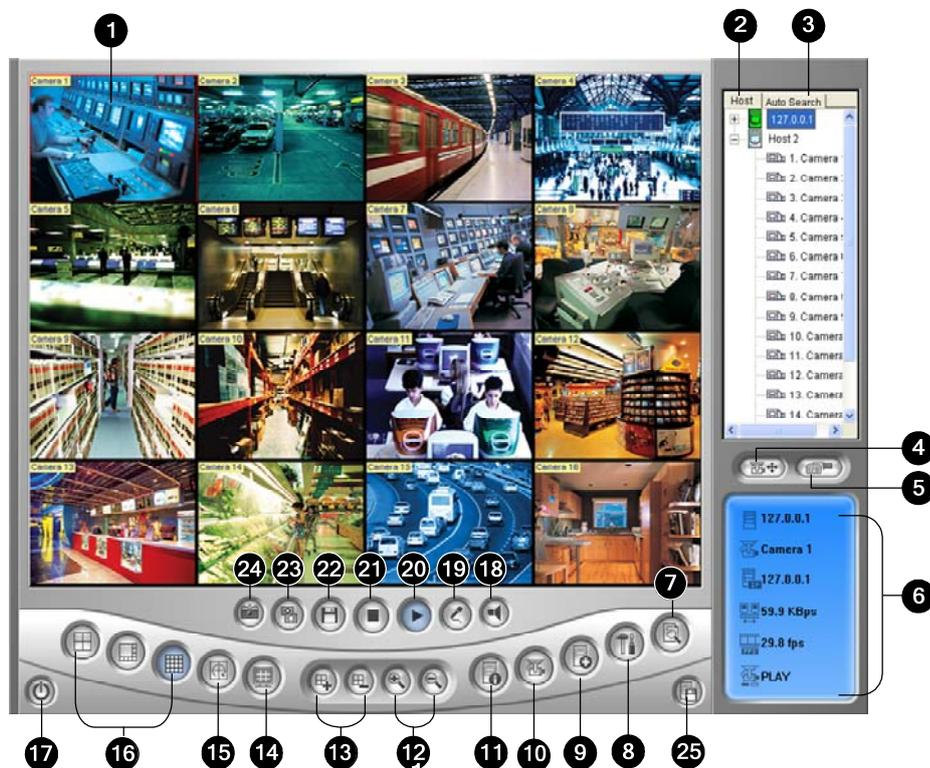
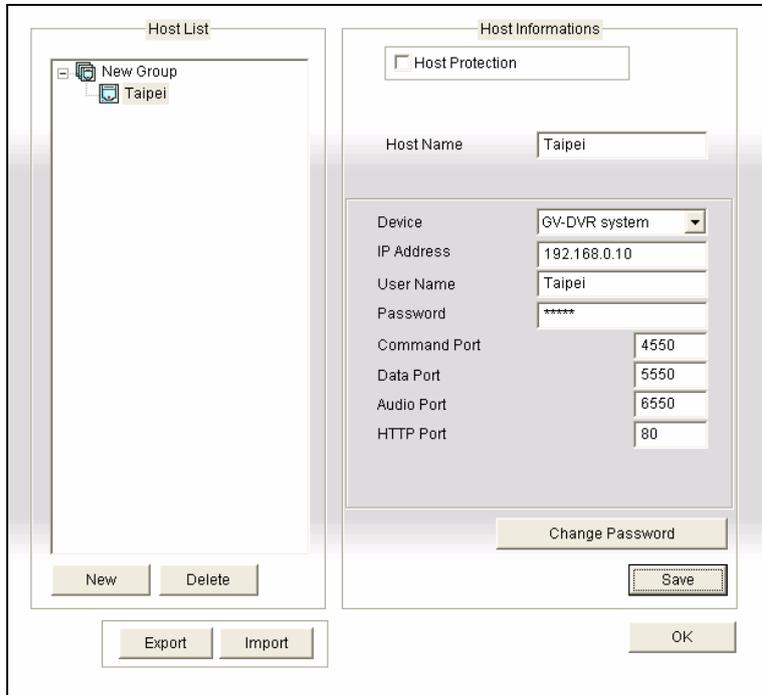

Figure 6-32 The Multi View Window
Figure 6-38 The Edit Host Window
You can save live videos in a client computer. The files in AVI format are playable at the third party viewer. Click the **Save** button (No.22, Figure 6-32) and then select all or several cameras to start recording. For the folder path, see Figure 6-38.
Click a desired channel, and then click the **Snapshot** button (No.24, Figure 6-32) to take a snapshot of live video.
2. Click the **PTZ Control** button (No. 4, Figure 6-32).
1. Click the **I/O Control** button (No. 5, Figure 6-32).
1. Click the **Add Channel** button (No. 13, Figure 6-32), and then click the monitoring windows. The selected windows will be framed in red color.
2. Click the **Video Polling** button (No. 15, Figure 6-32). The application will rotate the selected cameras in the specified time. To configure the polling time, see Figure 6-37.
To remove one camera from the polling group, click the **Remove Channel** button (No. 13, Figure 6-32), and then click its monitoring window.
Click the **Configure** button (No. 8, Figure 6-32) to display the following window.